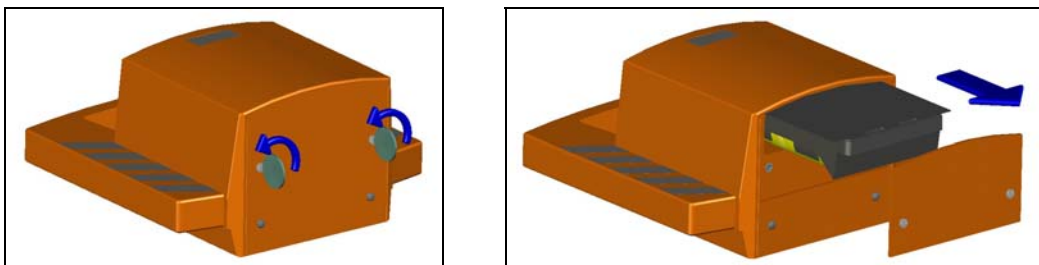

Fig. 16: Replacement batteries of TX5000
In order to change the 6x1.5 V batteries type LR20, both screws on the back of the transmitter must be (e.g. with the aid of a coin) turned through  $\frac{1}{4}$  turn (1) and the battery tray must be pulled (2) (see Fig. 16). Please note that all the batteries are fitted in the same direction